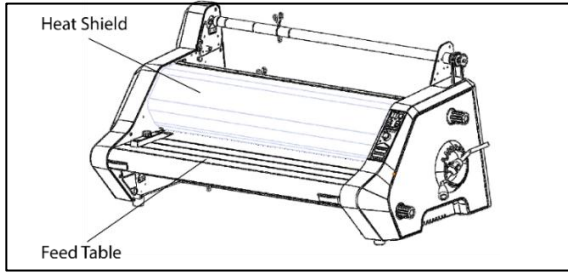

Figure 4
3. **HEAT SHIELD:** (figure 4) Prevents inadvertent contact with the heat rollers. The HEAT SHIELD must be lowered for the RUN operation to work.
4. **FEED TABLE:** (figure 4) The Feed Table is used to position items for lamination. Feed table must be closed and latched for laminator to operate.